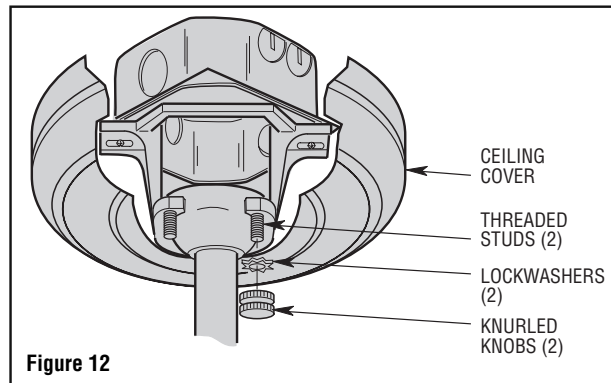

Figure 12
4. Lift the ceiling cover up to the threaded studs and turn until studs protrude through the holes in the ceiling cover (Figure 12).
5. Secure the ceiling cover in place by sliding lockwashers over the threaded studs and installing the two knurled knobs (supplied). (Figure 12). Tighten the knurled knobs securely until the ceiling cover fits snugly against the ceiling and the hole in the ceiling cover is clear of the downrod. Your fan is now wired to be turned on and off from the fan switch.